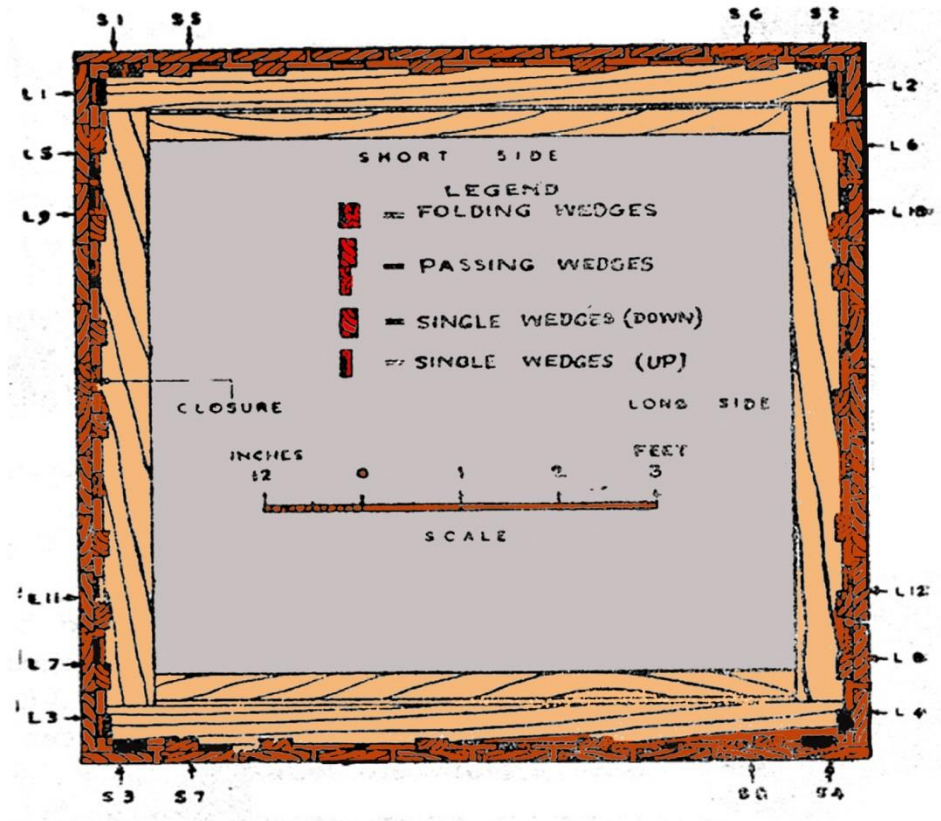

Fig 48D1-4: Plan of Standard 9 Foot x 8 Foot Shaft
n. Add the remaining runners at open or close spacing as required and using closures if necessary. Employ a single wedge between each runner and the waling driving them alternately upwards and downwards (Fig 48D1-4). Short temporary runners may be used on one or more sides to make it easier to throw out the spoil. These must be replaced by full length runners one at a time as the shaft is deepened.